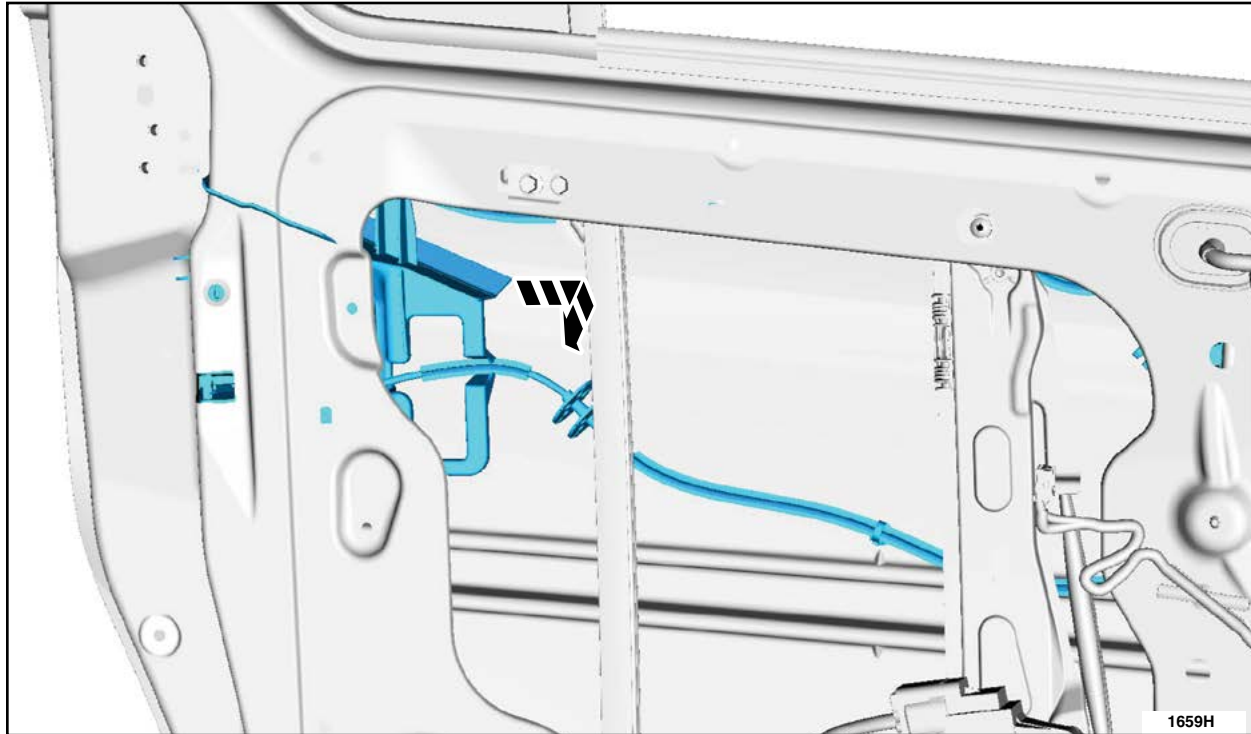

FIGURE 14
7. Position the sliding door latch out of the sliding door. See Figure 14.